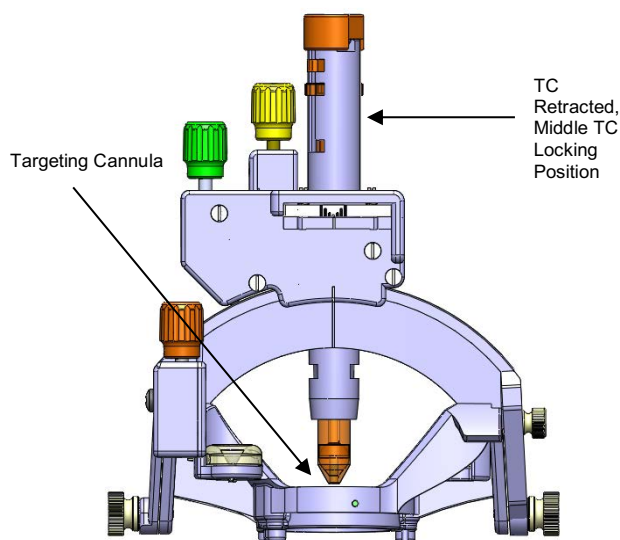

Figure 23: Targeting Cannula positioning
6. Retract the Targeting Cannula to the middle TC locking position. **See Figure 23.**